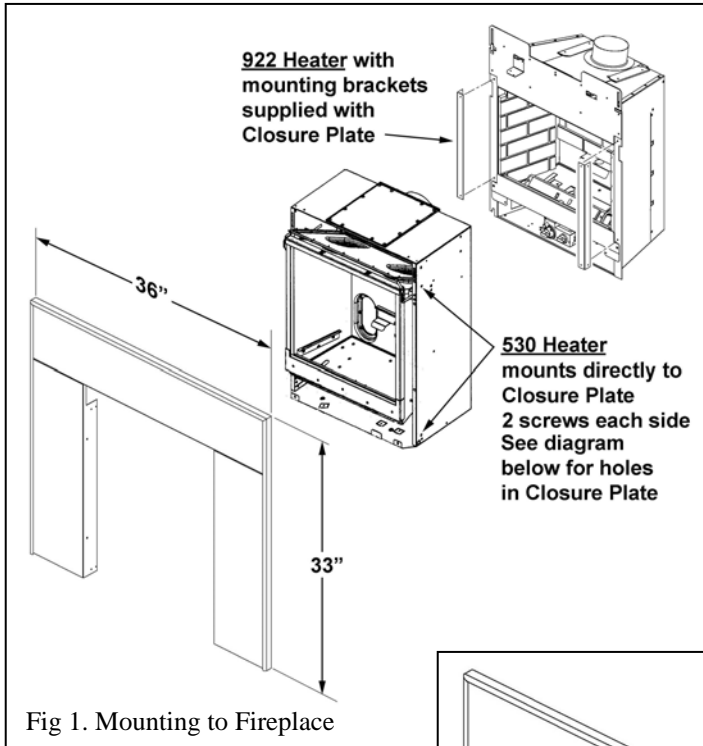

Fig 1. Mounting to Fireplace
- Mount the closure plate to the fireplace ( 530 fireplace only) using 2 screws per side through the appropriate hole in the closure plate for the front trim used ( see figs 1 & 2). The 922 fireplace will first require the adapter brackets to be mounted to the closure plate then the closure plate mounted to the fireplace ( mounting brackets are completely symmetrical and can therefore mount to either side, (see figs 1 & 2)